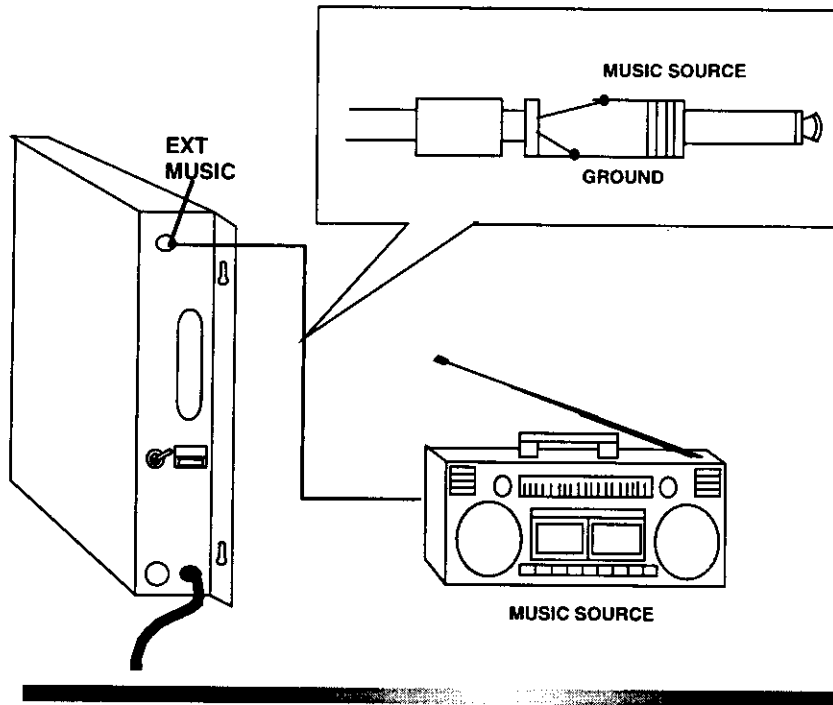

FIGURE 16
1. Connect the external music source to the external music jack using a 1/8 in. (3.5mm) mini phono plug. See Figure 16.